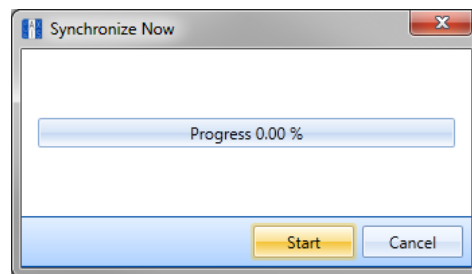

Figure 15-9. Synchronize Now
- 1 Click **Tools > Synchronize Now** to open the *Synchronize Now* dialog box. Then click **Start** (Figure 15-9).